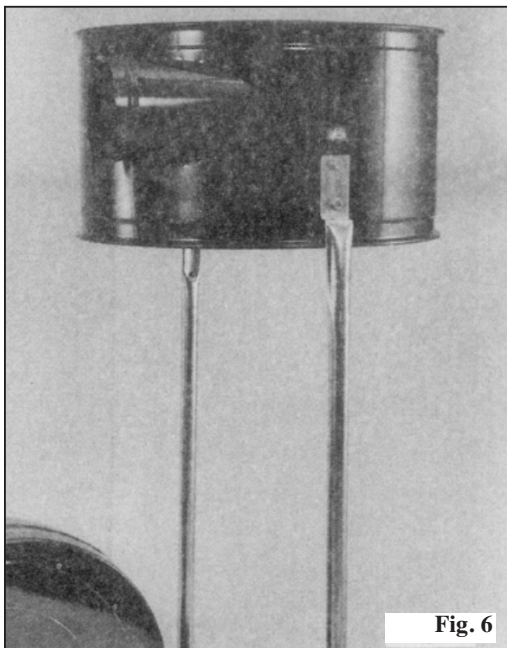

Fig. 6
Not attach the collector (C) to the two collector support making sure the side hole in facing the collector body as shown in Fig. 6.